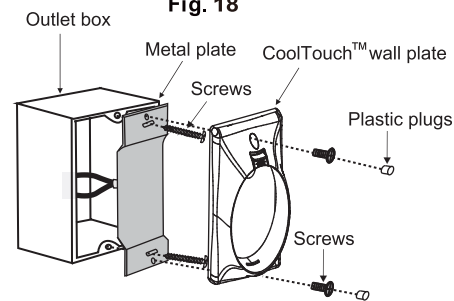

Fig. 19
Step 2. Install the metal plate and CoolTouch™ wall plate to the existing wall outlet box with 4 screws provided. Then place the two plastic plugs into the wall plate. (Fig. 19)